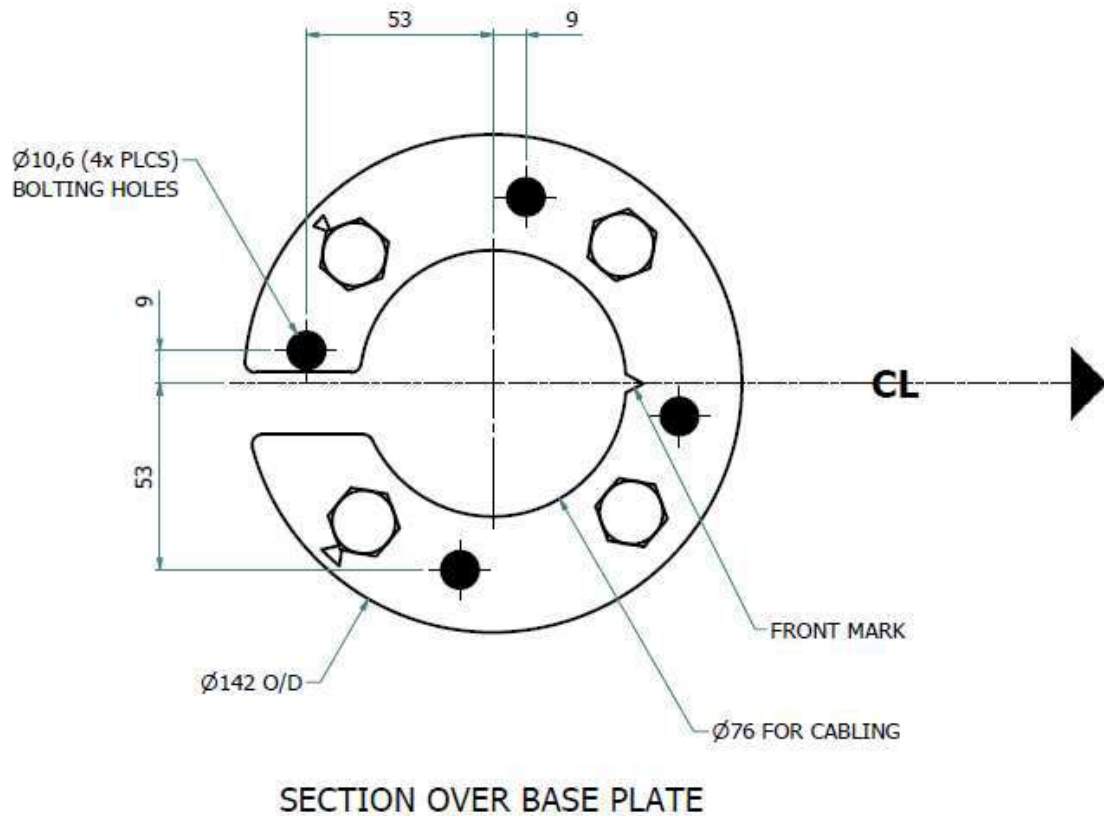

Figure 3: Base ring positioning & bolting holes
- 4.4. Place the base bracket on the floor over the conduit point as shown in *Figure 3: Base ring positioning & bolting holes*. Mark the hole positions for the holding down bolts as shown.